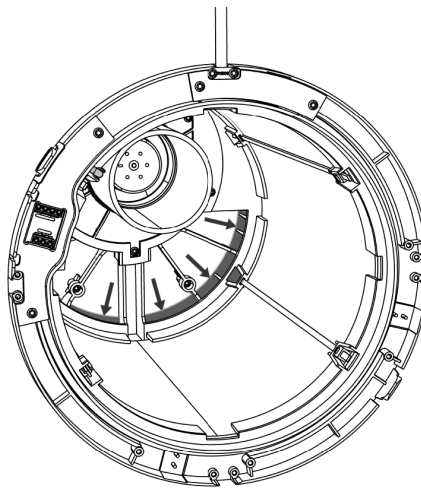

Figure 16 - Carefully vacuum the hole in the wall as well as the coarse filter in the back
4. Carefully vacuum the hole in the wall to remove dust and any dirt. Be especially attentive to the part furthest in the back where the outside coarse filter is located, see the arrows in Figure 16 below.